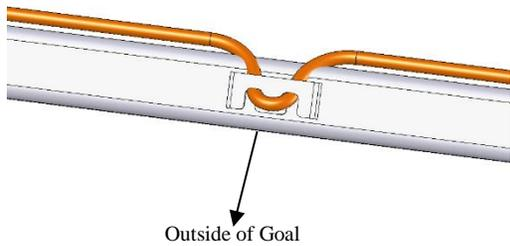

Figure 6
6. With the goal now fully assembled, place the net flat on the ground and locate the corners of the net. Locate the centerline of the bound edge that will be attached to the crossbar. The centerline of the binding will be attached to the centerline clip of the crossbar. Lay the soccer goal down on its face, attach the net by first pushing the outer binding through the clip, then securing in the groove (Fig. 6). Start in the middle of the